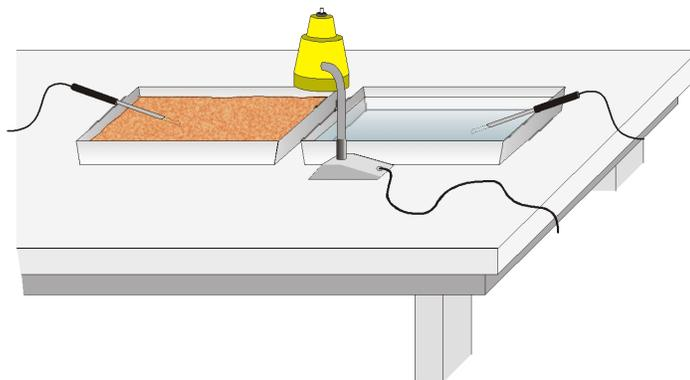

Figure 1
2. Lean Probe 1 in the pan with sand as shown in Figure 1. Lean Probe 2 in the pan with water. The probe tips should be at the centers of the pans.
3. Position a light bulb directly over the boundary between the two pans and about 10 cm above the pans as shown in Figure 1. The bulb should be the same distance from both probe tips.